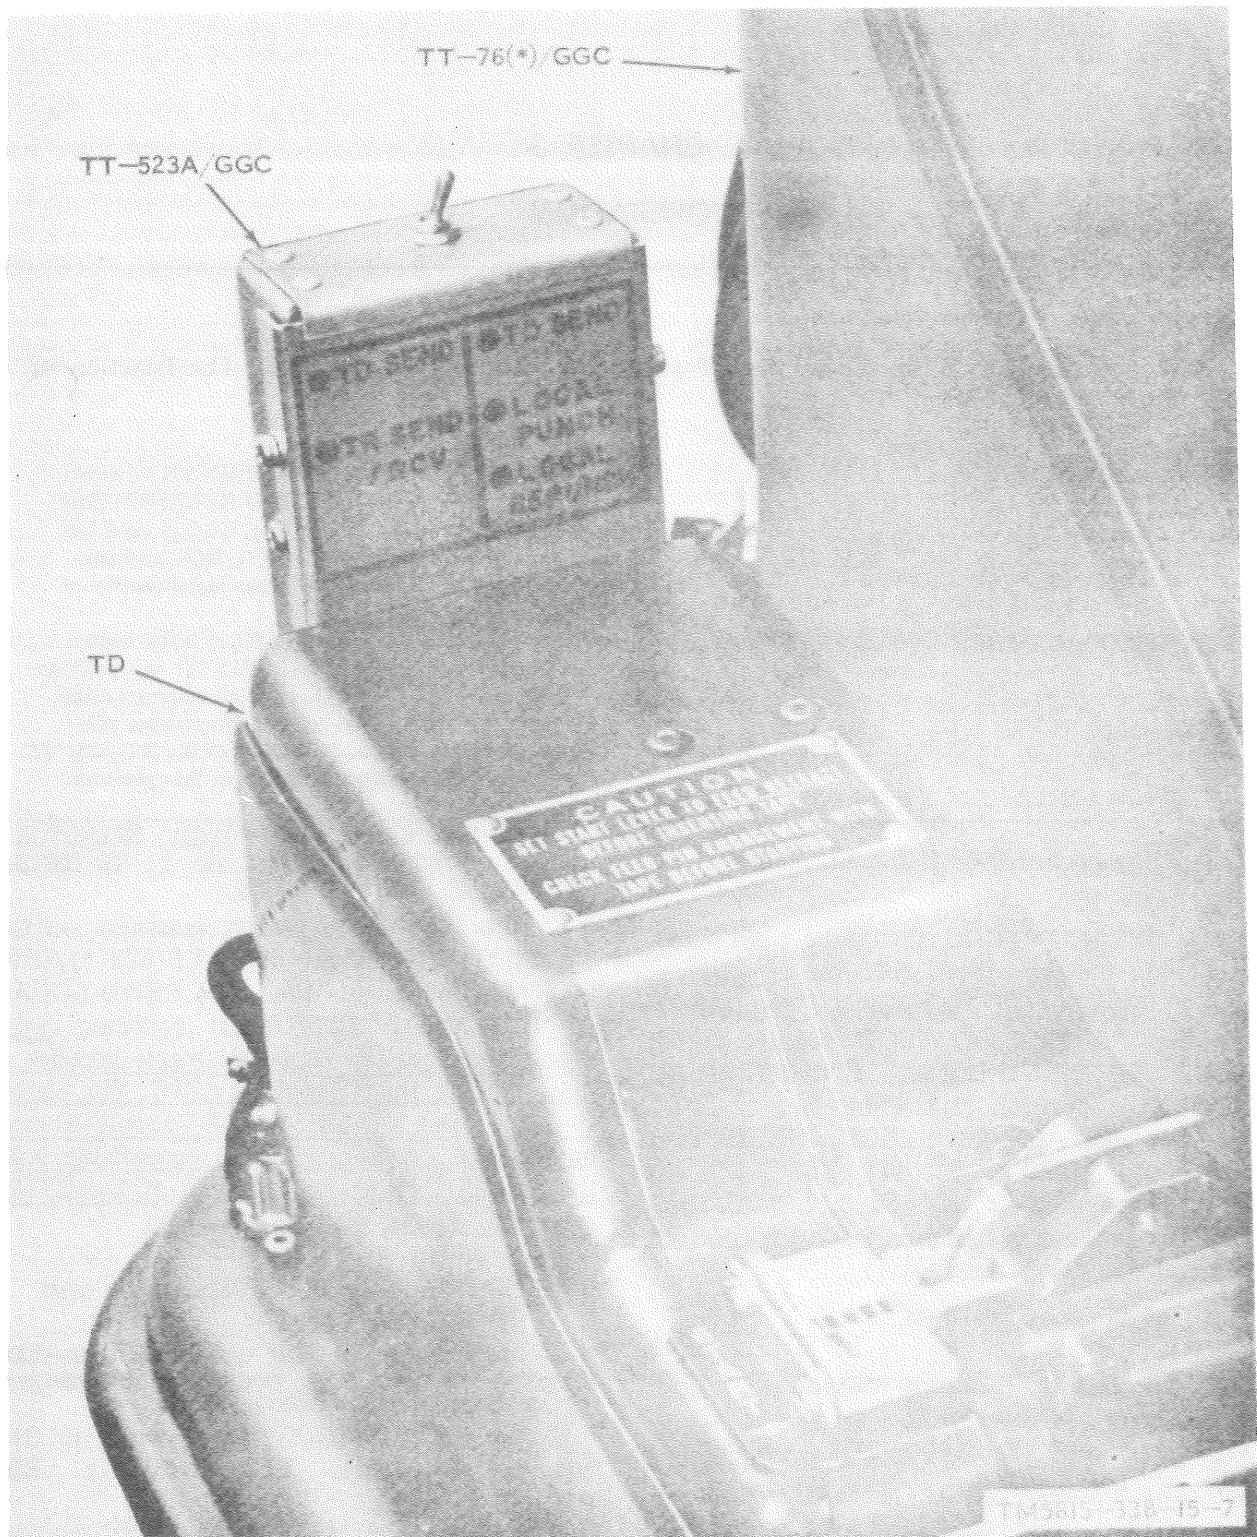

Figure 3-1. TT-523A/GGC mounted in operating position.
a. Set the TT-523(*)/GGC toggle switch in the TD SEND-LOCAL PUNCH-LOCAL REPUNCH position (fig. 3-1).